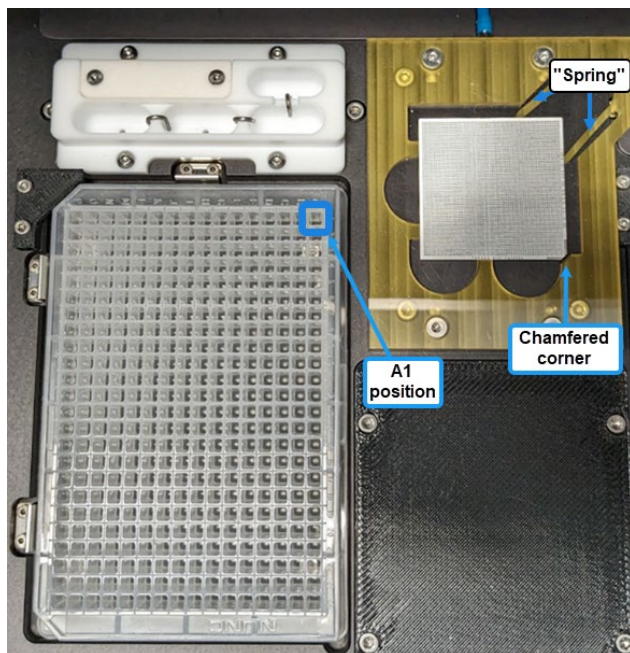

Figure 3. Shasta Single Cell System stage module. (Left) 384-Well Source Plate nest, with the "A1" well of the plate highlighted. **(Right)** Single-Cell chip nest.
- All dispensing steps in the Shasta Single Cell System stage module should be performed with a 384-Well Source Plate oriented with the A1 well positioned at the top-right corner of the 384-well plate nest (Figure 3). The source plate must be fully seated. This may be accomplished by pushing the source plate down after it has been placed on the plate nest.
- All dispensing steps in the Shasta Single Cell System stage module should be performed with the Single-Cell 350v Chip oriented with the chamfered (beveled) corner positioned towards the bottom-right corner of the chip nest (Figure 3).